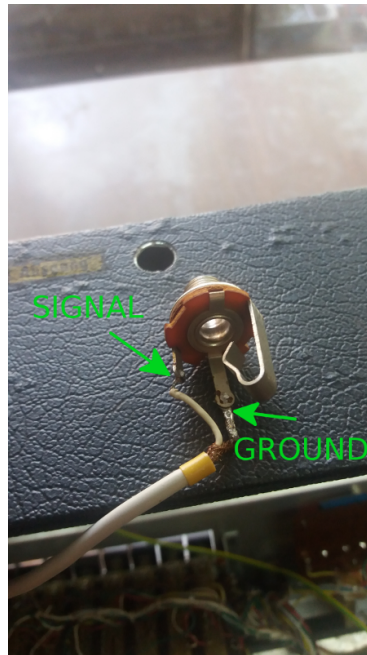

Figure 5: Soldering of the JACK 6.3 mm audio connector
5. Solder audio output cable to JACK 6.3 mm connector according to figure 5. The signal wire (thin isolated wire) must be soldered to the tip of JACK connector as you can see in figure 5.